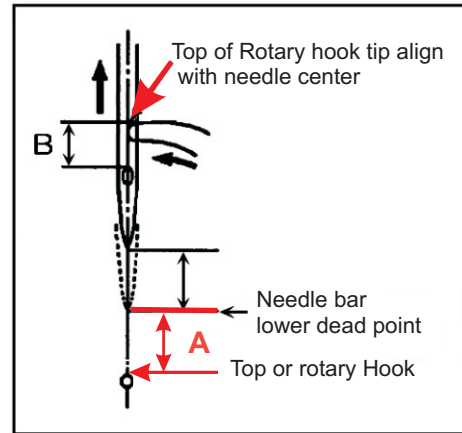

Fig 1
1. Measure the distance (A) between the rotary hook center and the needle point when the needle bar is brought to the lower dead point by turning the hand wheel counterclockwise. (Fig. 1)
2. Measure the distance (B) between the upper end of needle hole and the upper end of rotary hook blade point when the rotary hook blade point is aligned with the needle center by turning the hand wheel further.
B (Reference) = 1.0 ± 0.2 mm (Fig. 1)
3. Adjust the needle bar height.(Fig. 1) **A**